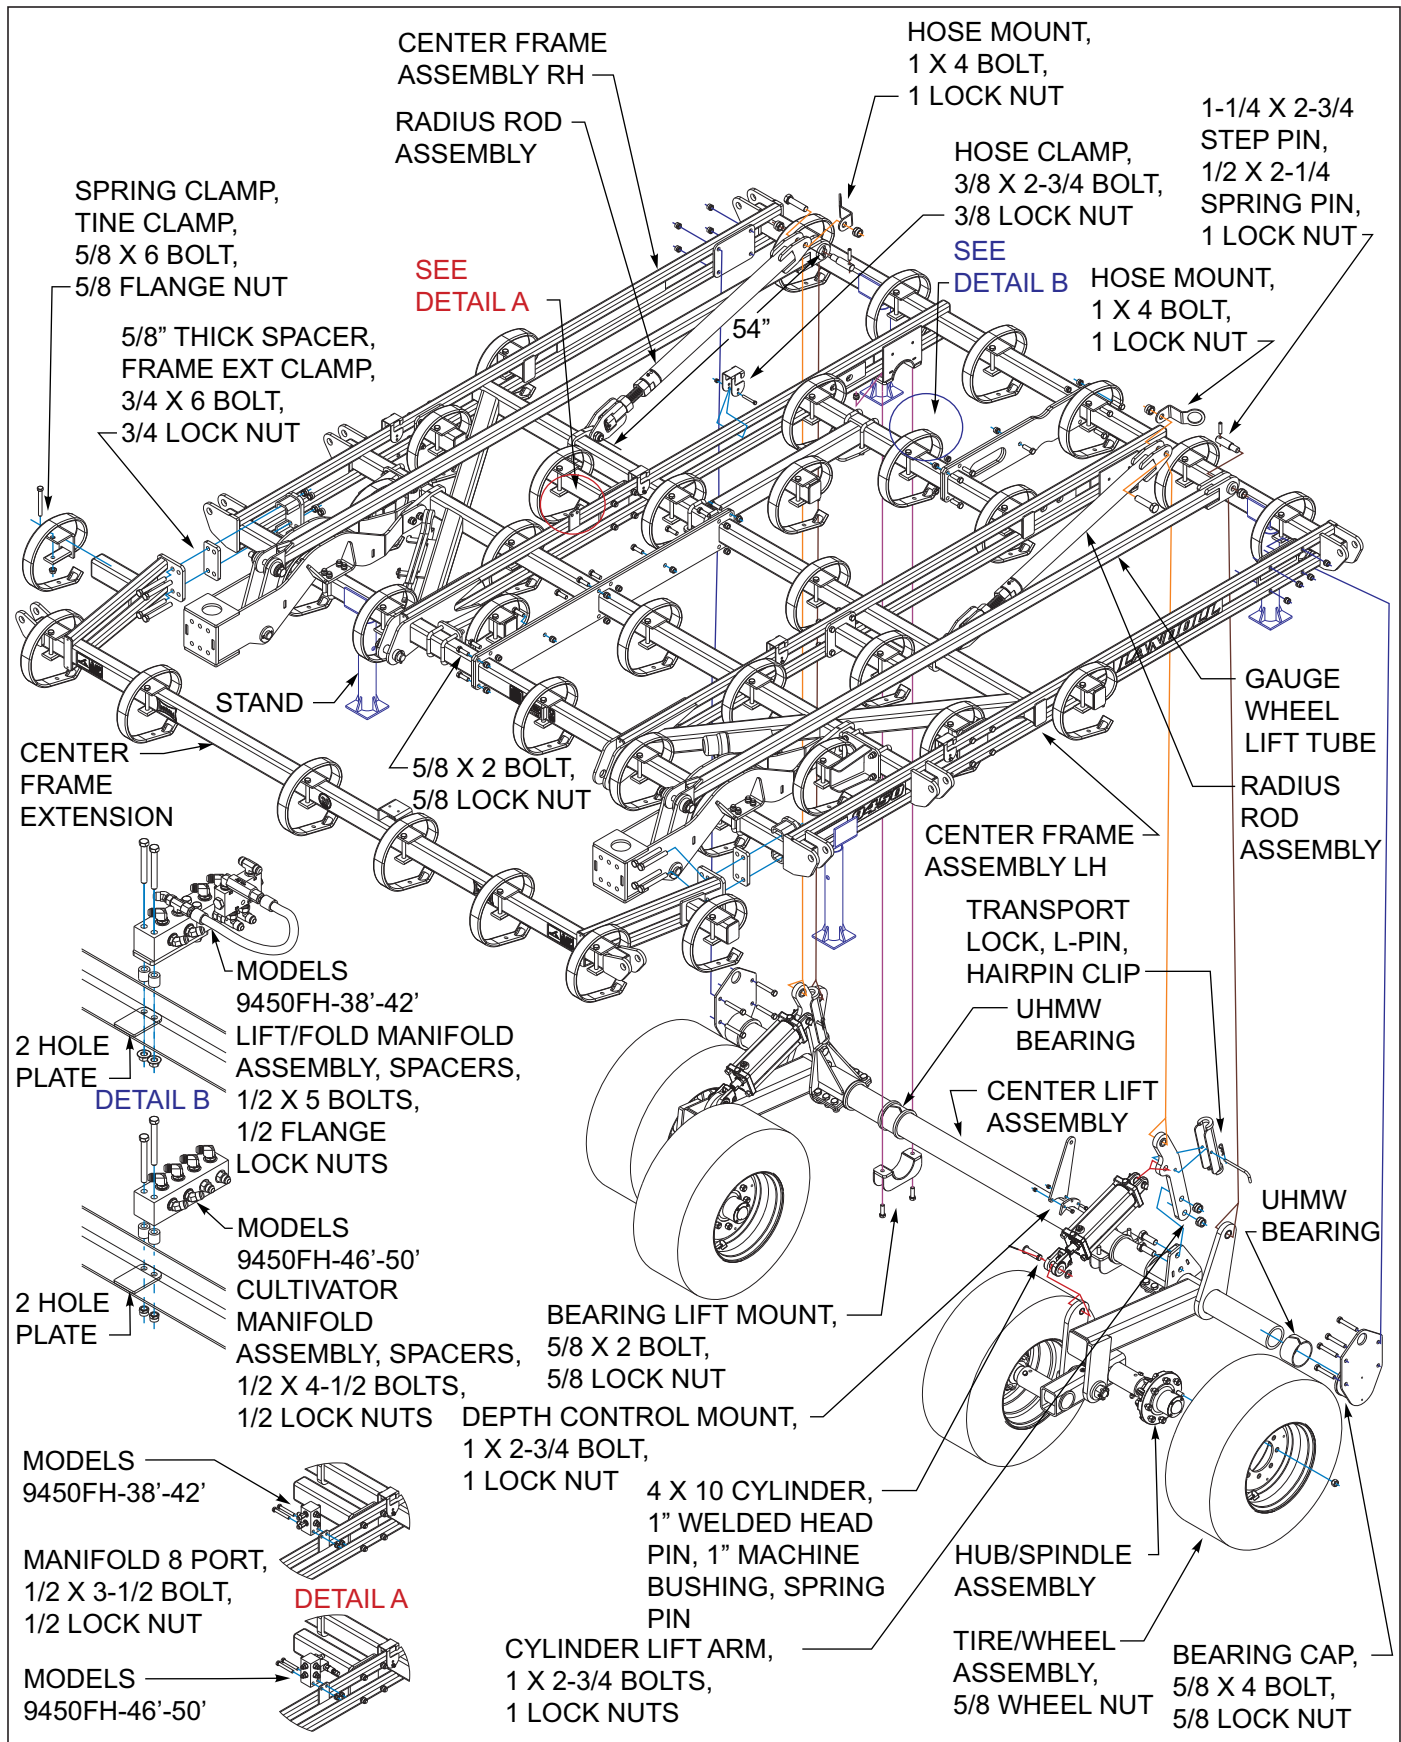

Figure 3-1: Center Frame Assembly
1. Bolt the two center frame halves together using 5/8 x 2 bolts and lock nuts *See Figure 3-1*.
16. Install the 8 port manifold to 2 hole plate toward front of center frame assembly RH with 1/2 x 3-1/2 bolts and 1/2 lock nuts *See Figure 3-1*.
17. Install the cultivator manifold assembly on 2 hole plate on rear of center frame tube using 1/2 x 45 bolts, spacers and 1/2 flange lock nuts, models 9650-38'-42' *See Figure 3-1*.
18. Install the lift/fold manifold assembly on 2 hole plate on rear of center frame tube using 1/2 x 4-1/2 bolts, spacers and 1/2 lock nuts, models 9650-46'-50' *See Figure 3-1*.